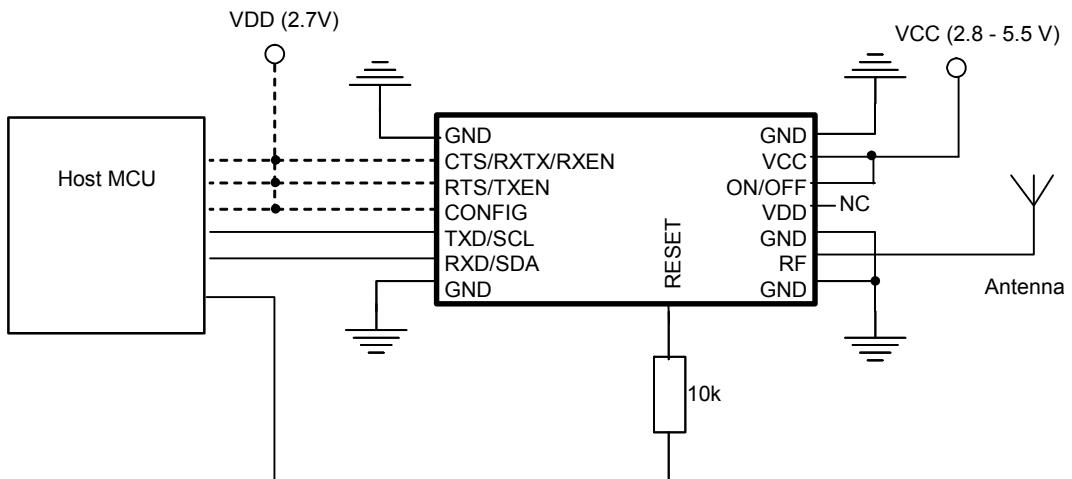

Figure 1. Reset circuit using host MCU
- Control the RESET pin by a separate I/O pin from the MCU using a 10 kOhm series resistor (RESET does not have any internal serial resistor, but a 100k pull-up to VDD). Set RESET low before ON/OFF is turned low, and keep low until ON/OFF is high again (VCC – 10%). This will ensure proper power-on reset (POR). See Figure 1 below.